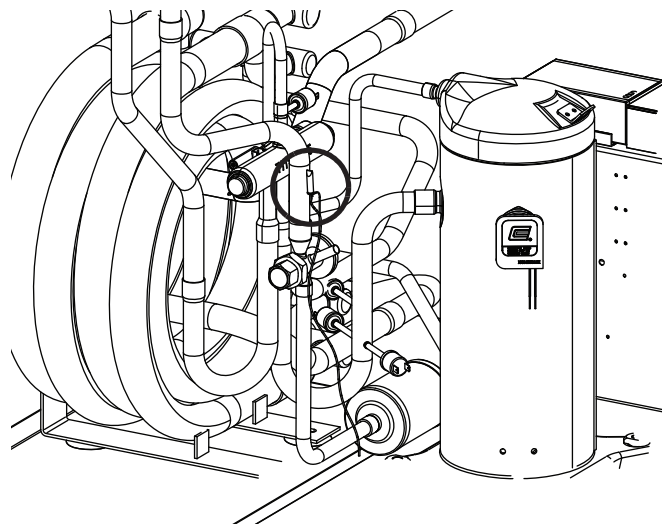
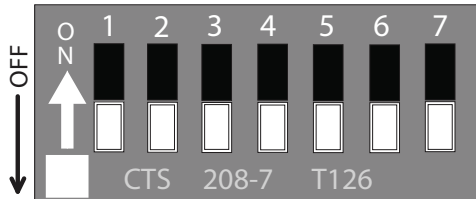

Fig. 70 – Air Coil Freeze Protection Sensor
Fig. 71 — UPM Settings DIP Switch (SW1)
If temperature drops below or remains at freeze limit trip for 120 seconds, the controller will shut down the compressor and enter into a soft-lockout condition. The default freeze limit trip is 25°F; however, this can be changed to 15°F by flipping DIP switch SW1. Refer to Fig. 68, item 10, Fig. 71, and Table 11.
Air coil freeze protection sensor, mounted between the thermal expansion device and the evaporator (see Fig. 70), monitors refrigerant temperature between the evaporator coil and the thermal expansion valve. If temperature drops below or remains at the freeze limit trip for 30 seconds, the controller will shut down the compressor and enter into a soft-lockout condition. The default freeze limit trip is 25°F, this can be changed to 15°F by flipping DIP switch SW1. (See Fig. 68, Item 10, Fig. 71, and Table 11.)